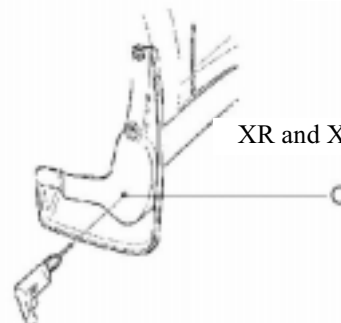

Fig. C-4
-  5. While holding mudguard tight to the vehicle, drill a 2 mm center pilot hole in location C. (Fig. C-4)